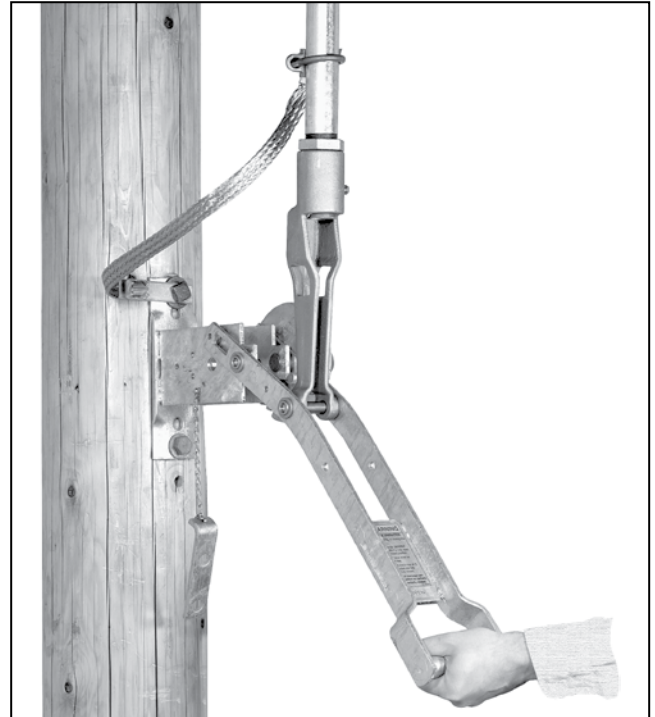

Figure 27. Verifying the slack has been taken up in the operating linkage.
STEP 25. Move the operating handle *slowly* to the **Closed** position. See Figure 27. A definite resistance should be felt at the end of the stroke, indicating all slack in the operating linkage has been taken up.